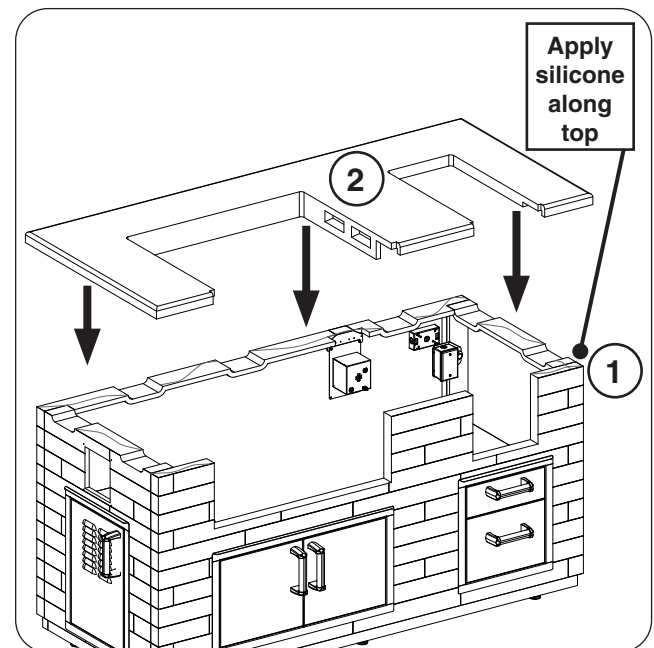

Fig. 11-2 Place countertop
1. Apply silicone along the top of the island (see Fig. 11-2, step 1).
2. Place the countertop onto the island as shown in Fig. 11-2, step 2. (Be sure to align the cutouts in the countertop with the openings in the front wall.)